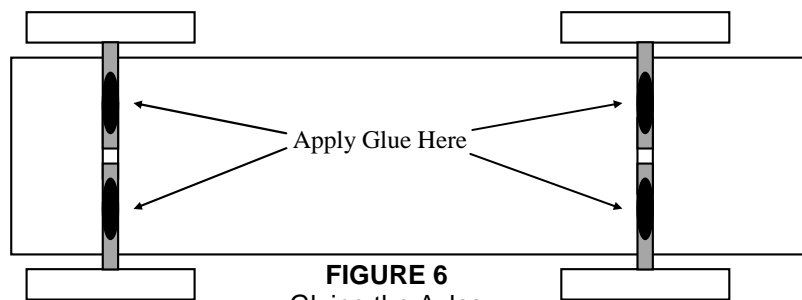

FIGURE 6
6. **Axle Slots Only** - To keep the axles from becoming misaligned during the race, place glue in the axle slots on top of the axles (see Figure 6). Use epoxy, hot glue, white glue, or a similar product. *Keep the glue away from the wheels!* Remove excess glue, making sure that the glue does not hang down below the car, reducing the clearance to less than 3/8 inch. Set the car on its back to dry for 24 hours.